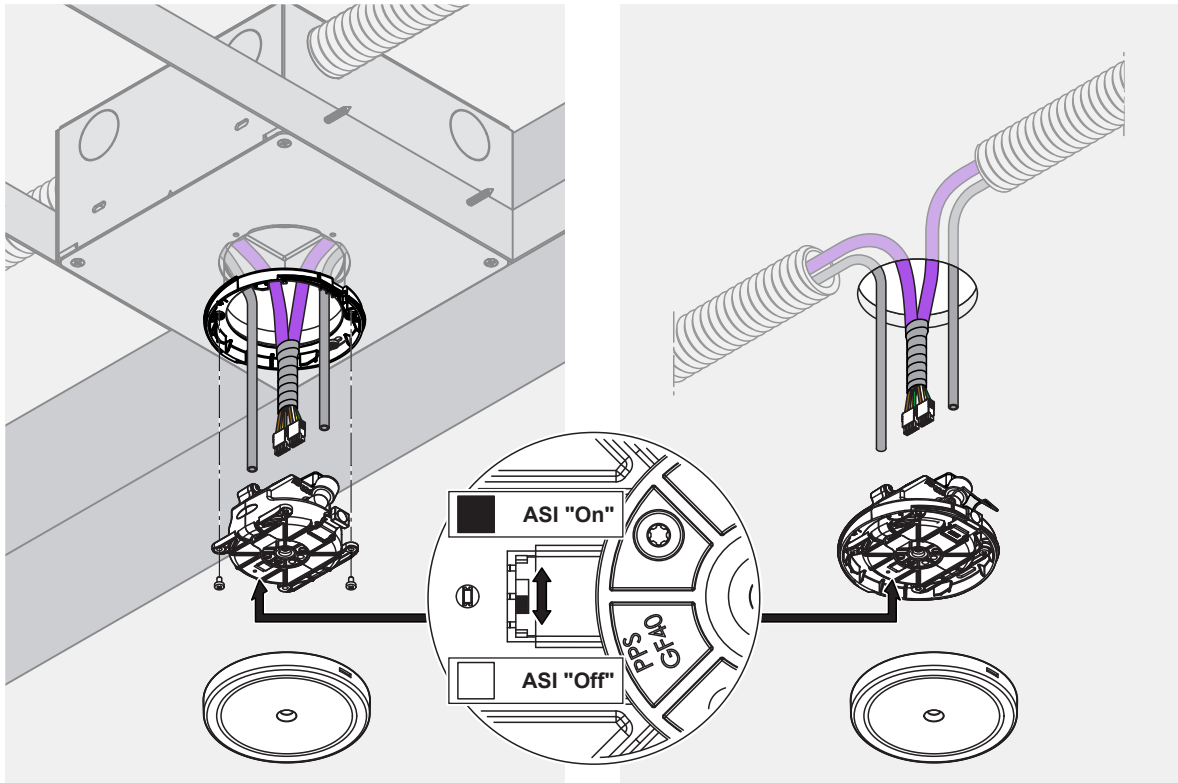

Fig. 95: Replacing the spray head (screwed spray head version on the left, pluggable spray head version on the right)
3. Loosen the two screws (screwed version only, see Fig. 95 left).